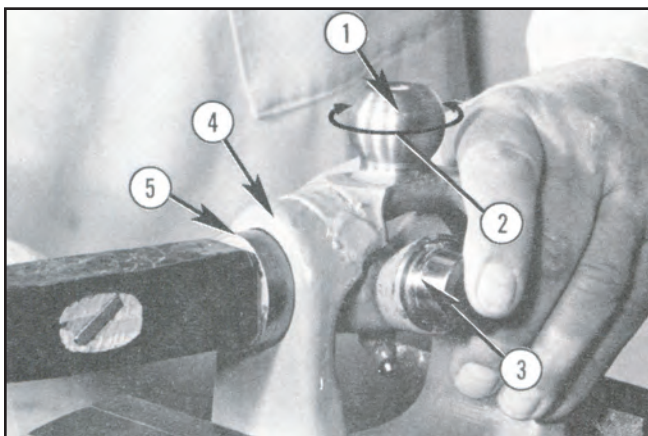

FIGURE 98
9. Before reassembly, clean and inspect both outer yoke's ball (1). If more than 1/8" play in relation to its centering disc socket, or noticeable wear around (2) exists, replace the yoke.
10. For reassembly, insert replaced center cross (3) into outer yoke (4). Start replaced needle bushings (5) into yoke. With a 1 3/8" O.D. driver (not shown), continue seating both bushings inward. Insure both center cross shafts are correctly piloting into needle bushings. See Figure 98.